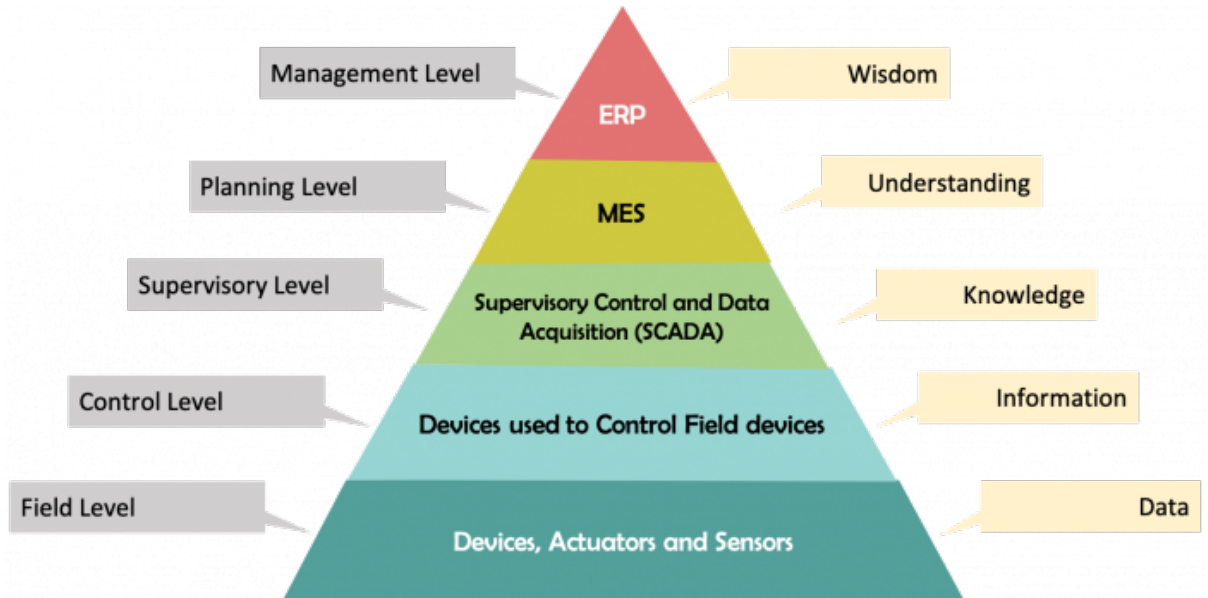

Figure 2: Automation Pyramid
Here to cover a large and mixed audience let me touch on a few fundamentals quickly. Figure 2 presents the information in terms of the Automation Pyramid1). Here is a picture of how industry automation works and the different levels of automation. Any industry starts with the field level and ends with the business logic. Now let us have a quick walk through on every level.
- Using predictive models at all levels of the automation pyramid (see Figure 2)